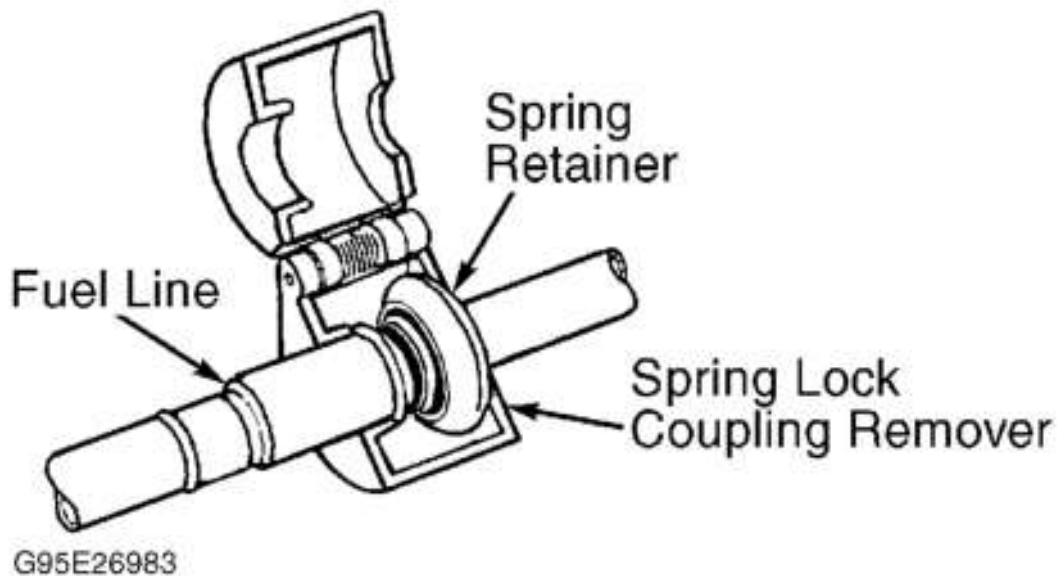

Fig. 2: Disconnecting Fuel Lines
2. Using Spring Lock Coupling Remover (T81P-19623-G1 for 3/8" line or T81P-19623-G2 for 1/2" line), disconnect fuel supply and return lines. See Fig. 2. Remove radiator shroud and radiator. Using Fan Clutch Pulley Holder (T84T-6312-C) and Fan Clutch Nut Wrench (T93T-6312-B), remove fan and clutch assembly.
3. Release fuel pressure. See **FUEL PRESSURE RELEASE**. Using Spring Lock Coupling Remover (T81P-19623-G1 for 3/8" line or T81P-19623-G2 for 1/2" line), disconnect fuel supply and return lines. See **Fig. 2**.
3. Release fuel system pressure. See **FUEL PRESSURE RELEASE**. Using Spring Lock Coupling Remover (T81P-19623-G1 for 3/8" line or T81P-19623-G2 for 1/2" line), disconnect fuel supply and return lines. See **Fig. 2**.
3. Using Spring Lock Coupling Remover (T81P-19623-G1 for 3/8" line or T81P-19623-G2 for 1/2" line), disconnect fuel supply and return lines. See **Fig. 2**. DO NOT bend fuel rail. Remove radiator and shroud. Using Fan Clutch Pulley Holder (T84T-6312-C) and Fan Clutch Nut Wrench (T93T-6312-B), remove fan and clutch assembly.